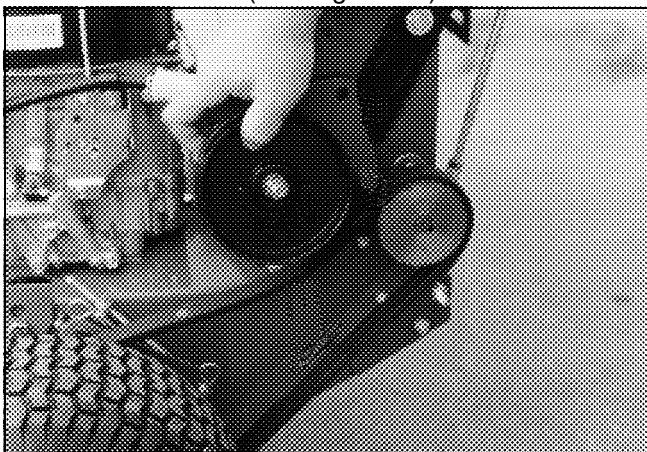

Figure 22
4. Lift up on the idler bracket with one hand while removing the belt from the jackshaft pulley with the other hand. (See Figure 22.)